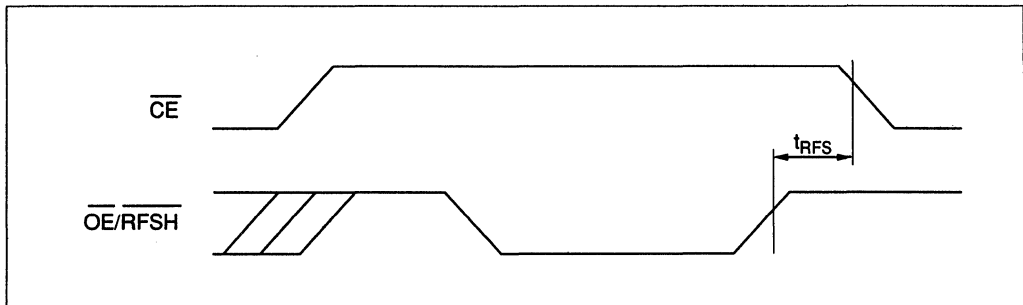

Figure 2-7  $t_{RFS}$  (Refresh Reset Time)
- After a self refresh is completed, the specification for  $t_{RFS}$  must be followed.  $t_{RFS}$  is defined as the time from a  $\overline{OE/RFSH}$  rising edge to the  $\overline{CE}$  falling edge in the next cycle (see figure 2-7).